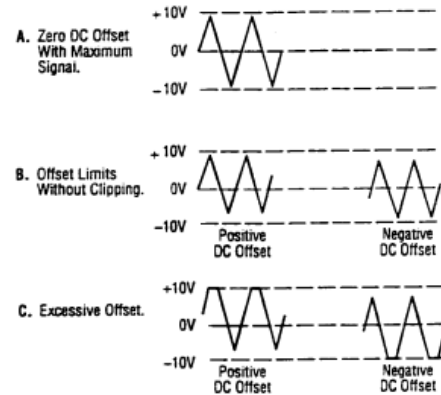

Figure 3. Use of DC OFFSET Control
7. A superimposed DC component can be added to the output signal by engaging the **DC OFFSET** switch (14) to enable operation of the **DC OFFSET** control (5). Rotation of this control adds a positive or negative DC component to the output signal. The DC component introduced is independent of the **OUTPUT LEVEL** control and can be varied by ± 10 volts open circuited or ± 5 volts into $50\ \Omega$. The DC Offset does not affect the **TTL/CMOS** output jack. The effect of DC OFFSET is shown in Fig. 3.
- Remember that the output signal swing of the generator is limited to ± 10 volts open circuited or ± 5 volts into $50\ \Omega$, and applies to the combined peak-to-peak signal and DC offset. Clipping occurs slightly above these levels. Fig. 3 illustrates the various operating conditions encountered when using the DC offset. If the desired output signal is large or if a large DC offset is required, an oscilloscope should be used to make sure that the desired signal is obtained without undesirable clipping.